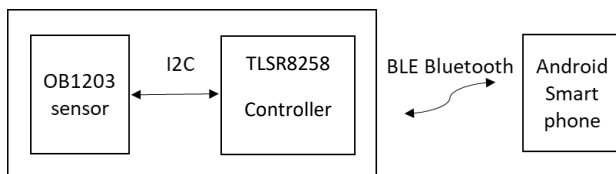

Figure 1. Block Diagram of ICE
The ICE hardware performs reflective, non-invasive measurements (e.g., at the fingertip), transmits the data via BLE to a smartphone or tablet (see Figure 1), where the Heart Rate (HR) and blood oxygen saturation (SpO₂) are determined by an Android app. During this process the proximity sensor function keeps the measurement running as long as there is a finger present.
| Figure 1. Block Diagram of ICE..... | 1 |